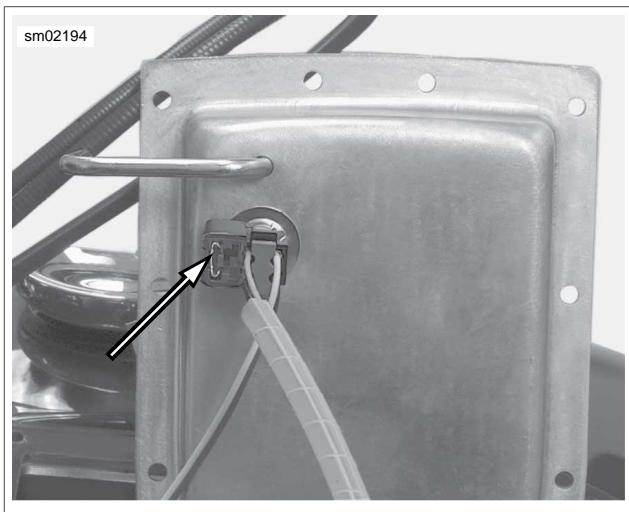

Figure 8-45. Connector Tab
9. See Figure 8-45. Depress tab and remove fuel pump/sender wiring from top plate. Remove top plate.